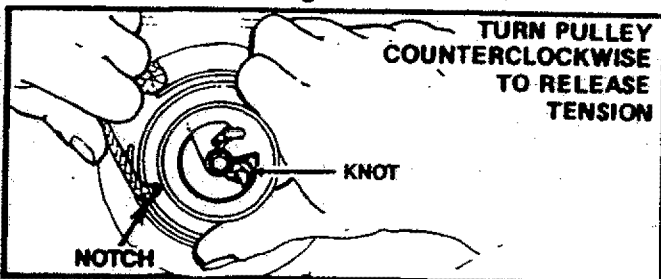

Figure 38
- a. Pull about 12 inches of rope from the pulley and catch the rope in the notch as shown in Figure 38.
10. Tie a knot in the end of the rope leaving no more than a 3/8 to 1/4 inch tail and pull the knot snugly into the corner of the groove in the pulley. Figure 38.
11. Tuck the tail on the rope knot into the inner curved section to avoid interference with the flywheel. Figure 38 & 40.